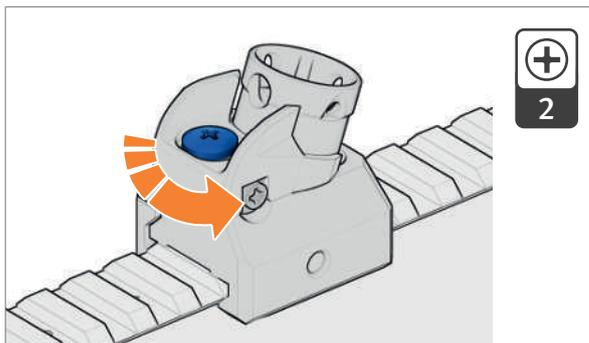

Fig. 83: Loosen the locking screw
1. Loosen the locking screw with a screwdriver anti-clockwise (Fig. 83).